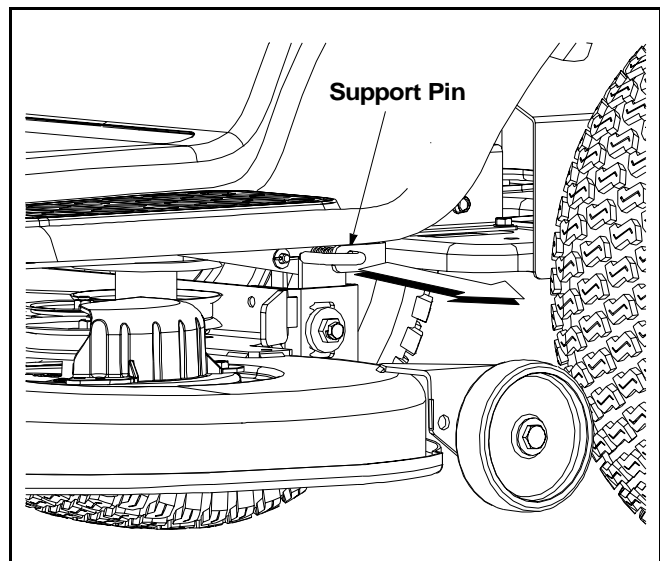

Figure 27
- Pull the deck support pin outward to release the deck from the deck lift arm. See Figure 27.